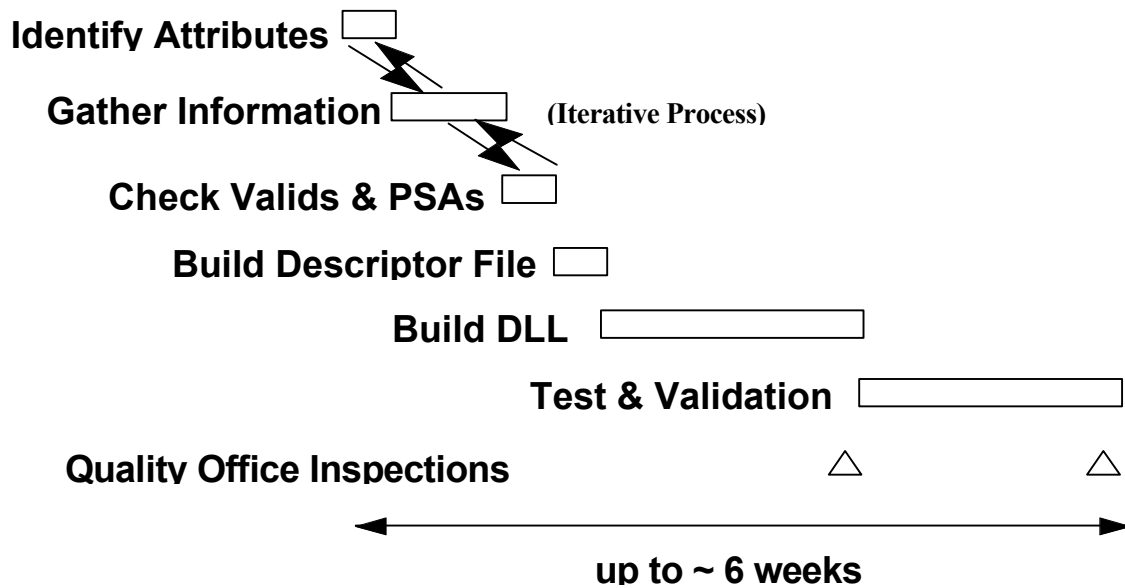

Figure 10.2-2. Steps in ESDT Development
- Once the ESDT Specification has been developed and the applicable attributes identified, the necessary metadata has to be gathered, the metadata values checked against the valid values and the product-specific attributes (PSA) need to be checked against the list of PSAs that are already defined (see Fig. 10.2-2).